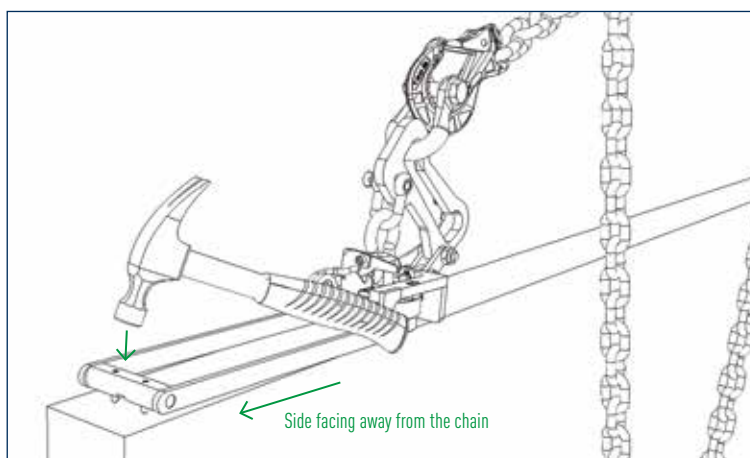

Fig. 2a
- c) Hammer in the mandrels according to Fig. 2a.
- d) Position the large shackle in the lifting position according to Fig. 2a/2b.